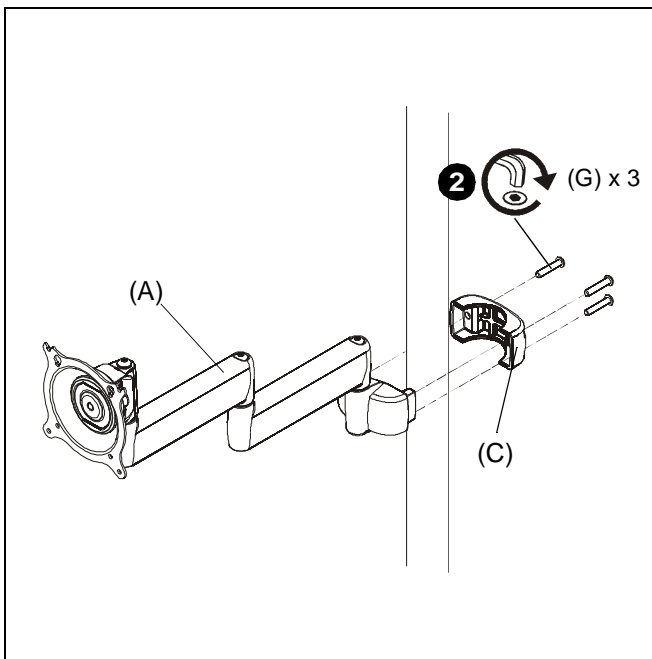

Figure 1
2. Place MSP-TINT01 assembly (A) against pole, with back clamp (C) on opposite side of pole. Using 5/32" hex key (M), loosely assemble with three 1/4-20 x 1 1/4" button head cap screws (G). (See Figure 1)